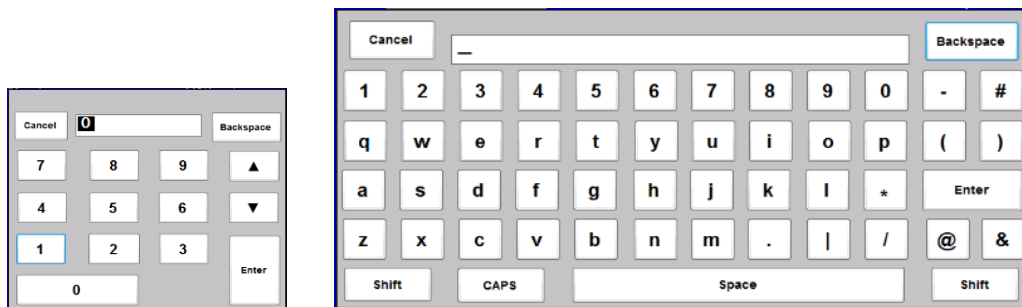

Figure 5-3. Enter New Tool Number Window
1. On the Tool Manager screen, highlight the tool whose settings you want to copy to the new tool, and press COPY TOOL. The Numeric Entry or Alphanumeric Entry window (Figure 5-3) displays, depending on whether you selected Numeric or Alphanumeric tool number mode in Initialization.